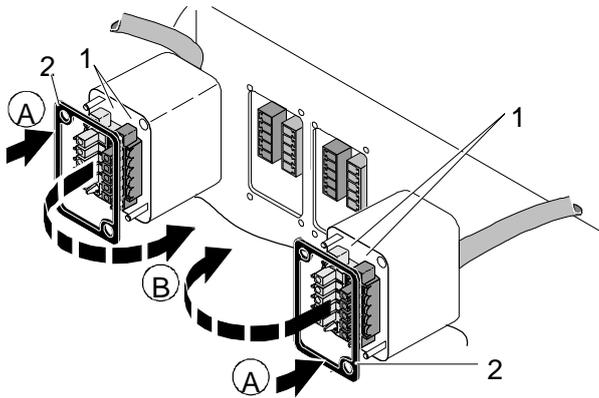

Figure 5-5: Plug-in of the SAB Cab
- Put on the sealing ( 2 ) in Figure 5-5 ) to the SAB cab (A).
- Plug in the SAB cab to the connector at the bottom of the reader box (B).